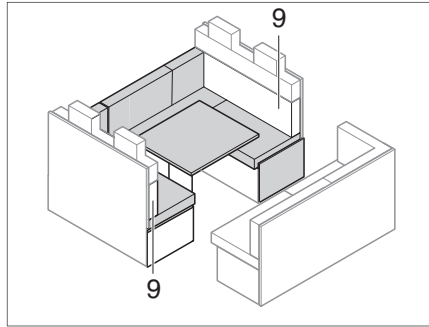

Fig. 204 Prior to conversion
- Remove back padding (Fig. 204,9) and put to one side.